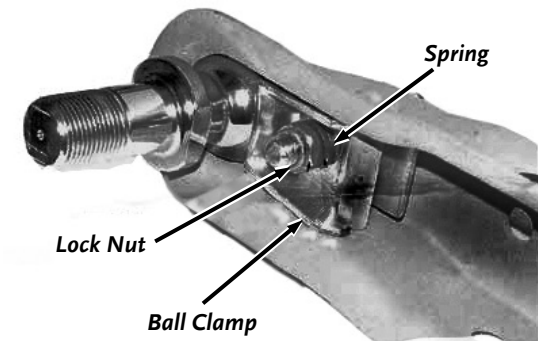

Figure 71
1. With the proper size ball in the socket of the hitch coupler, close the latch of the coupler completely (**Figure 71**). Verify that the locking trigger is properly engaged in its detent.